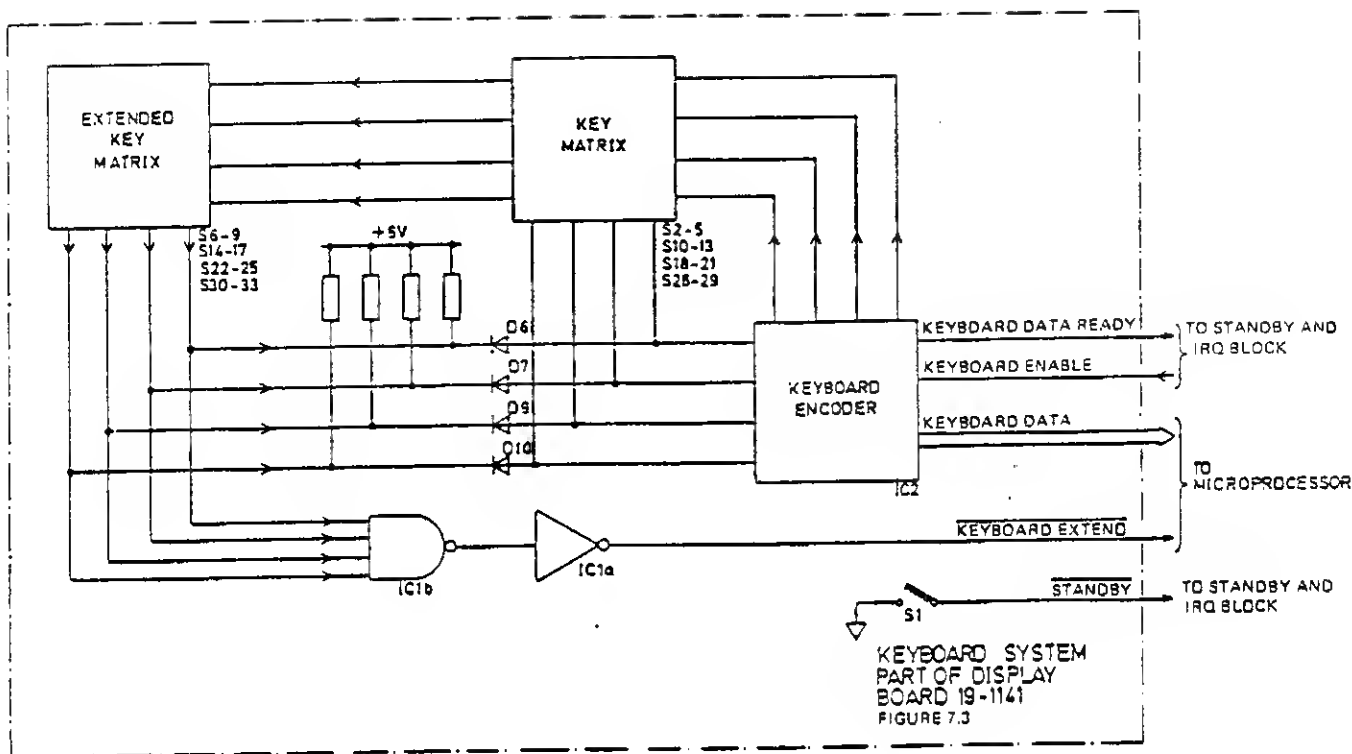

Figure 5.7 - Keyboard-Block Diagram
5.3.5.1.1 A simplified diagram of the keyboard block is given in Figure 5.7. The encoding of the keyboard data is performed within the system without microprocessor action. An interrupt request (IRQ) is made to the microprocessor when encoding is complete. Data transfer is initiated by the KEYBOARD ENABLE signal from the microprocessor.